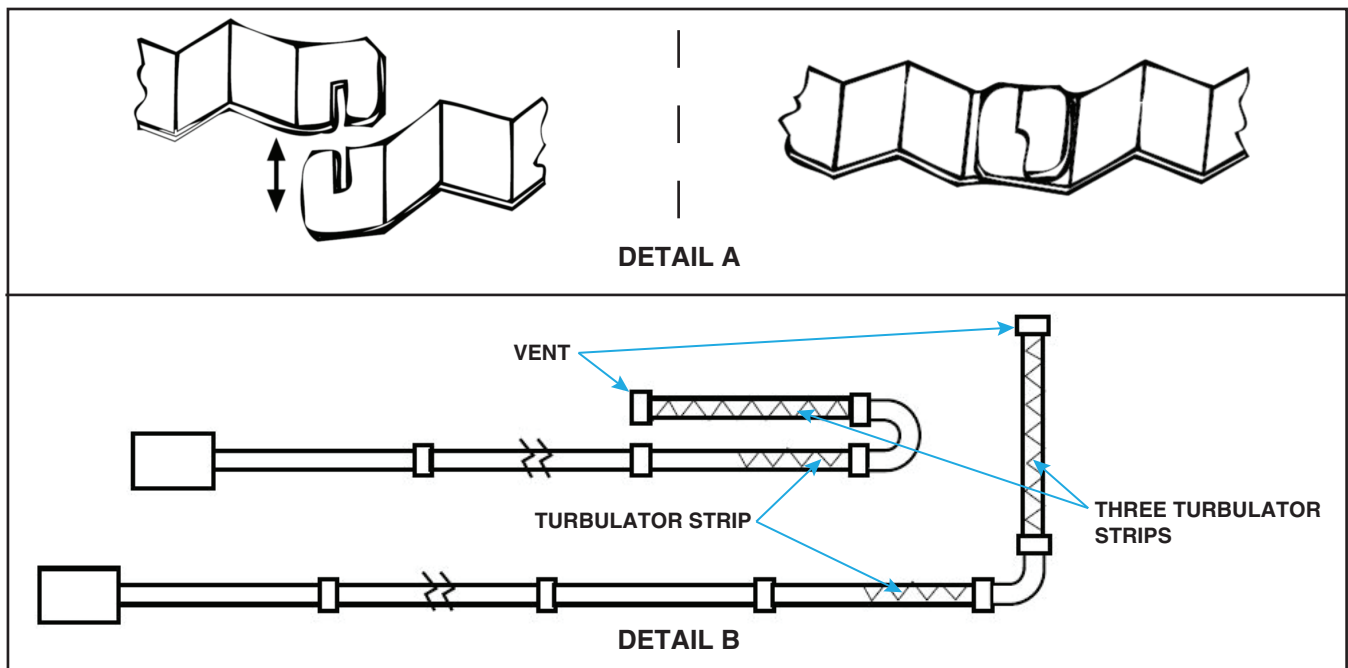

Figure 10. Turbulator Strip Installation
- Interlock turbulator strip sections as shown in **Figure 10**, DETAIL A and slide connected sections into emitter tube(s). Add further strips to form required length.
- Where heater configuration requires more than three turbulator strips and exhaust heat exchanger tube is adjacent to L- or U-tube, install turbulator strips as shown in **Figure 10**, DETAIL B.